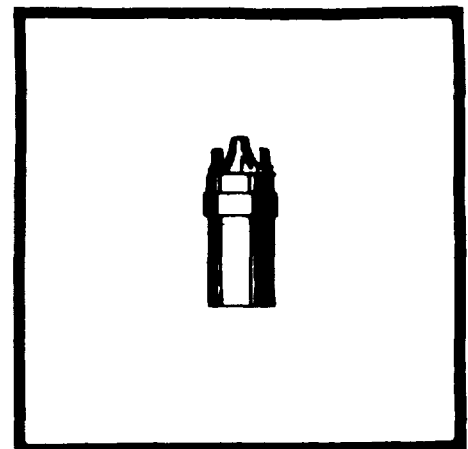

Fig. 82
4. Ignition Coil - Fig. 82.
- coil, as specified in Fig. 82.